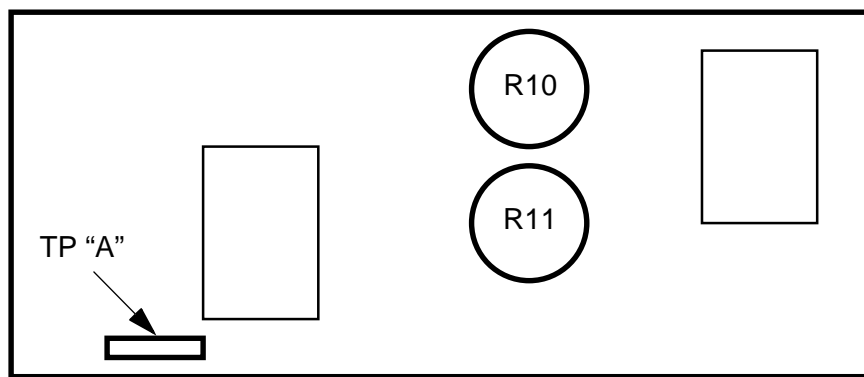

Figure 1-2 Two-Tone Decoder Adjustment Points
3. Set the transceiver to the applicable channel and connect an oscilloscope to TP A (bare copper trace) on the two-tone board (see Figure 1-2).